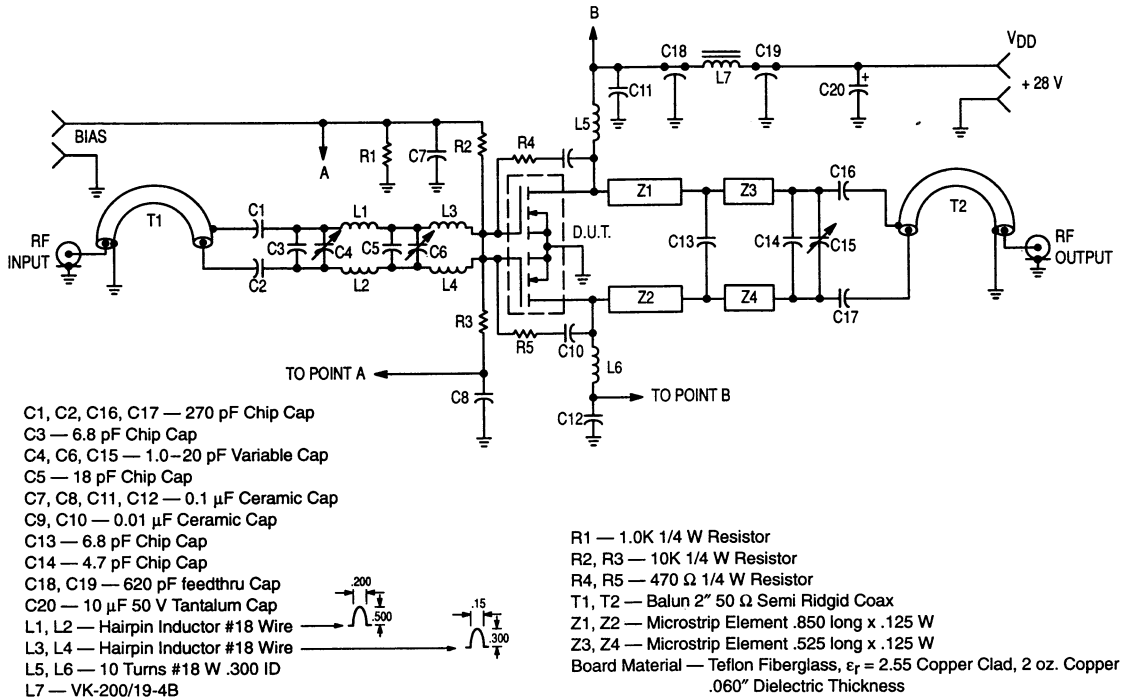

Figure 1. 400 MHz Test Circuit
FUNCTIONAL CHARACTERISTICS (Figure 1) (2)